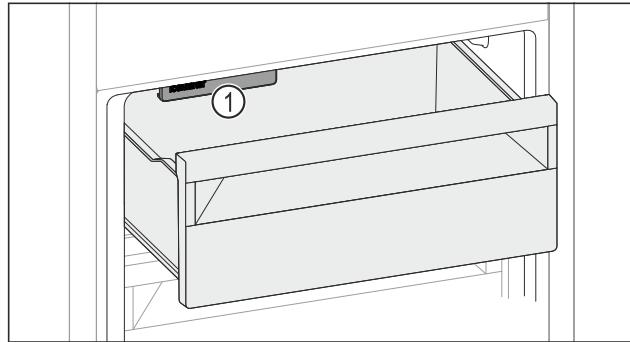

Fig. 142
- Watch out for the IceMaker Fig. 142 (1).